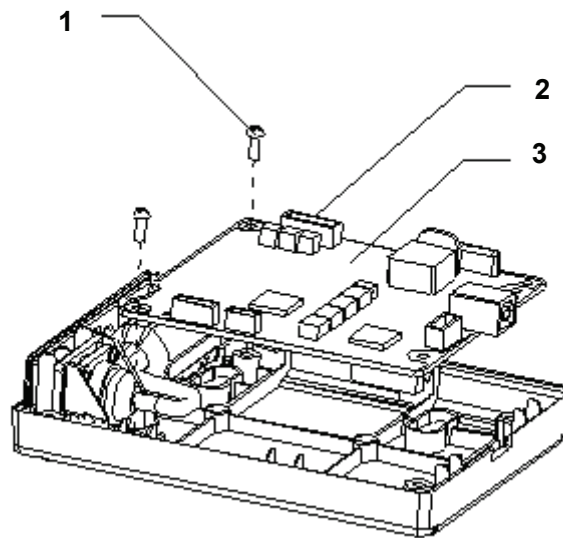

Figure 4-42 Removing ECG Board
2) As shown in Figure 4-42, remove two M3X8 screws, disconnect connector of the ECG module internal signal cable, and remove the ECG board.